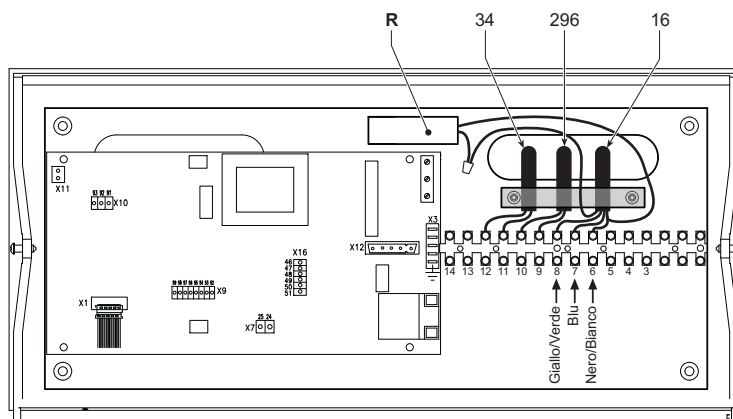

fig. 5 - Connection to the terminal block
3. Connect the fan cable to the terminal block, respecting the colours indicated in fig. 5 and fix the condenser "R" with the special adhesive clamp.
4. Connect the cable of the microswitch "C" to the terminals as shown in fig. 5.